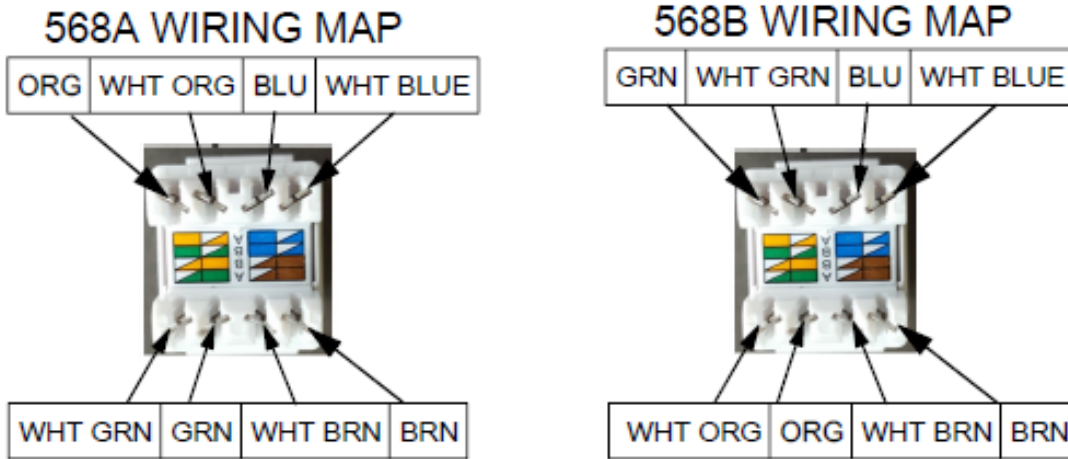

Fig.5
3.4 Position the wires in the IDC following the wiring color code required. Fig.5
4.4 Follow the wiring color code required. Fig.5